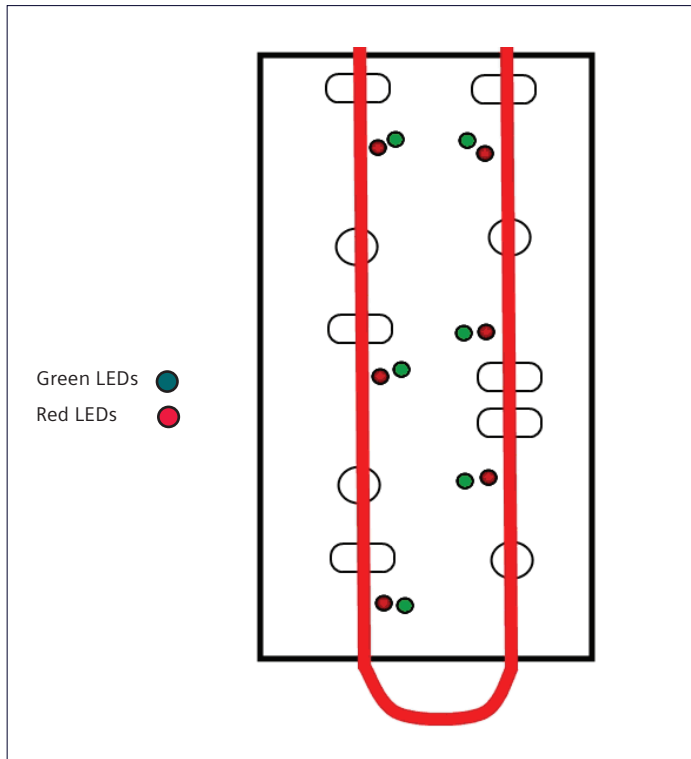

Figure 34: Firing test disconnect mains and red and green LEDs
- Identify six green LEDs and six red LEDs as shown in Figure 34. Number of LEDs varies for different voltage models.